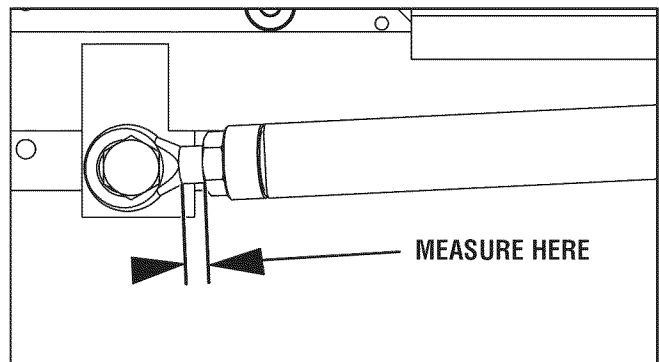

Figure 3. Measure Threads
2. Measure the amount of threads showing on the shank of the existing ball joint. See Figure 3.